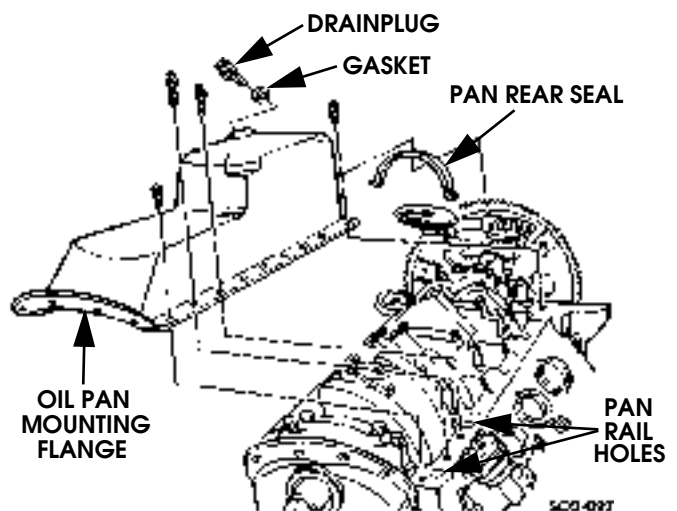

Figure 2-164: Oil Pan and Seal Installation
6. Apply silicone sealer, such as Permatex High Temp, Ultra Blue, or Ultra Black to surfaces of oil pan mounting flange surfaces (Figure 2-164).
7. Apply sealer to pan rear seal (Figure 2-164). Then press seal into place on oil pan. Coat seal ends with sealer as well.
8. Apply silicone sealer around two holes in right side panel rail on block (Figure 2-164).